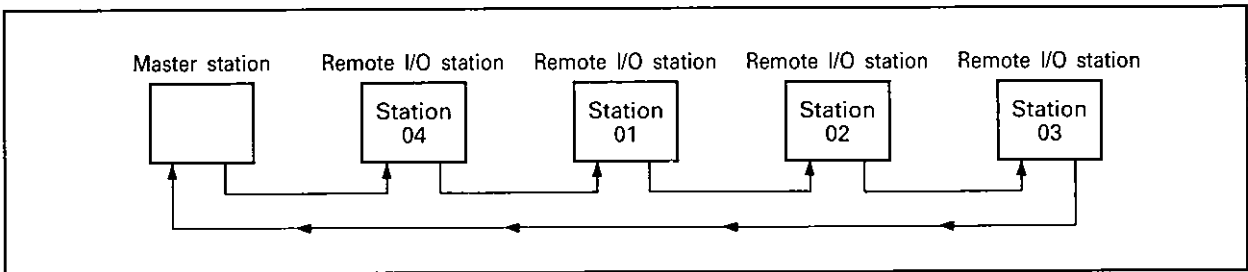

Fig. 4.2 Remote I/O Station Number Setting
- (1) Any station number must not be changed during I/O refresh to prevent input or output fault.
- (2) Station numbers may be set between 1 and 64.
- (3) The I/O refresh range depends on the number of remote I/O stations (buffer memory address 0). For example, if 10 exists at address 0, I/O refresh is performed with remote I/O stations 1 to 10. For further information, see Section 5.2.
- (4) Station numbers do not have to be sequential, e.g. as shown in Fig. 4.2.